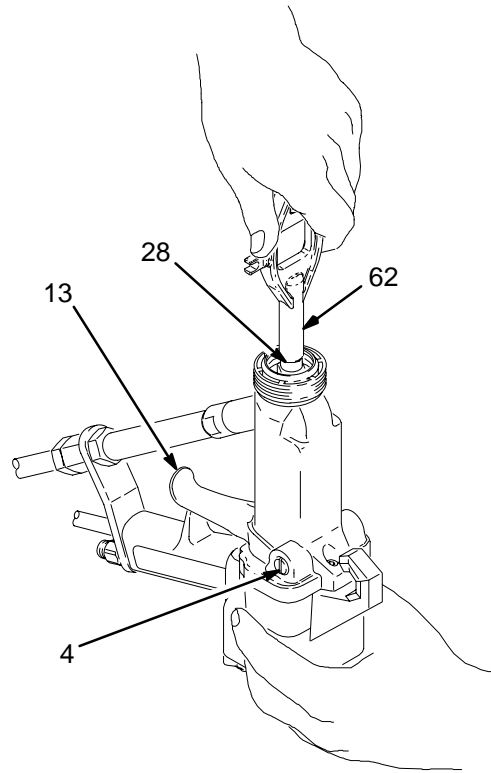
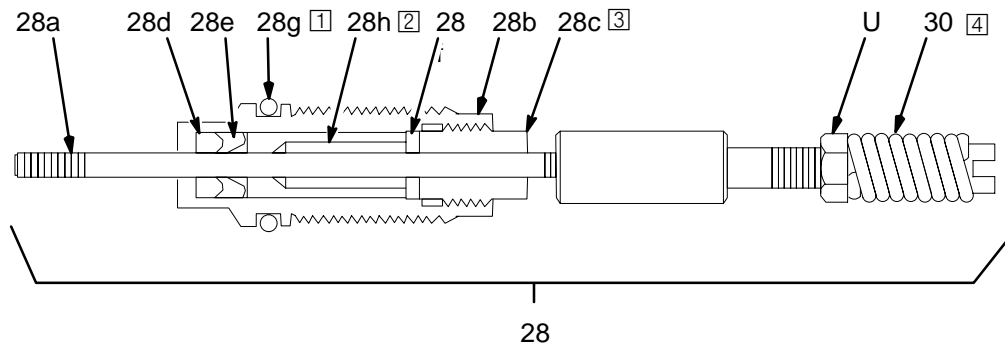

Fig. 19
Fig. 20
3. Loosen the trigger screws (4) far enough to remove the trigger (13). See Fig. 19.
6. If the parts are purchased separately, assemble them as instructed in steps 7 to 16 and as shown in Fig. 20, on page 34.
- Fill the entire inner cavity of the spacer (28h) with the dielectric grease included with the gun. Place the spacer on the fluid rod (28a), in the direction shown in Fig. 20. Generously apply the grease to the outside of the spacer.
- Place the fluid packing (28e), needle packing (28d), and housing (28b) on the fluid rod (28a), as shown in Fig. 20.
- Lightly tighten the packing nut (28c) with the multi-tool (62). The packing nut is properly tightened when there is 2 lbs. (9 N) of drag force when sliding the packing housing (28b) assembly along the shaft. Tighten or loosen the packing nut as needed.
- Make sure the spring (30) is installed against the nut (U) as shown in Fig. 20.
- Install the fluid packing rod assembly (28) into the gun barrel. Using the multi-tool (62), tighten the assembly until just snug.
- Install the trigger (13) and tighten the trigger screws (4). See Fig. 19.
- The spring (30) is not included with the fluid packing rod assembly (28)